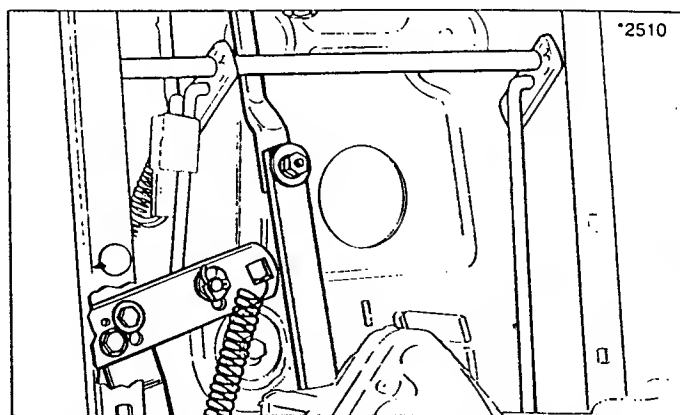

Figure 26. Neutral Adjustment - Gear Models
3. **On gear models**, see figure 26. Loosen the nut (A) that secures the front control rod (B) to the rear control bar (C). Control rod must move freely. Move the ground speed control lever into the neutral gate and tighten nut (A) securely to 17 ft. lbs.